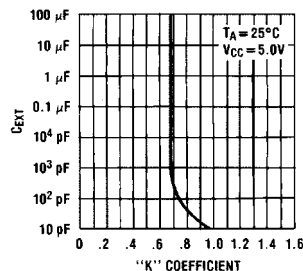

FIGURE 5.
6. The "K" coefficient is not a constant, but varies as a function of the timing capacitor C_X. Figure 5 details this characteristic.
7. Under any operating condition C_X and R_X must be kept as close to the one-shot device pins as possible to minimize stray capacitance, to reduce noise pick-up, and to reduce I_X R and L di/dt voltage developed along their connecting paths. If the lead length from C_X to pins (10) and (11) is greater than 3 cm, for example, the output pulse width might be quite different from values predicted from the appropriate equations. A non-inductive and low capacitive path is necessary to ensure complete discharge of C_X in each cycle of its operation so that the output pulse width will be accurate.